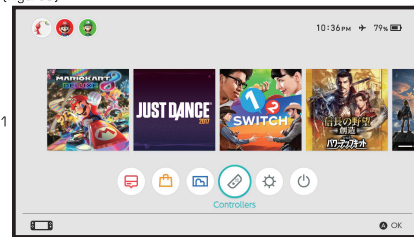

Figure 1
3. Select the "Controllers" icon on the Switch console menu screen. (Figure1)